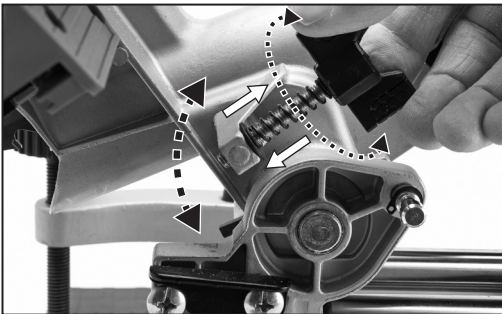

FIG. 10
6.9 DEPTH OF CUT STOP – FIG.10